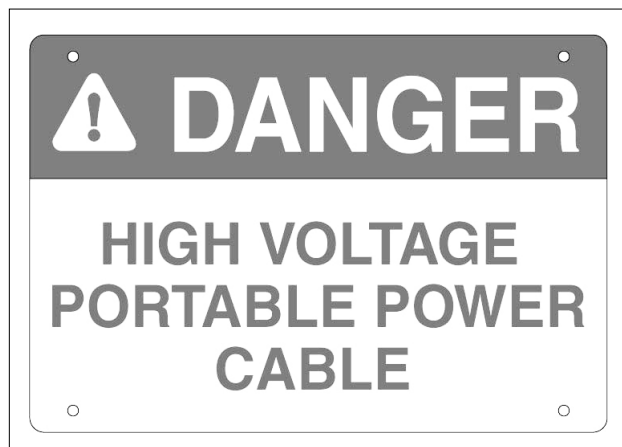

Figure 48-1 Danger Sign
1. Ensure that the danger signs are in place and visible at each end of the travel lane. See Figure 48-1.